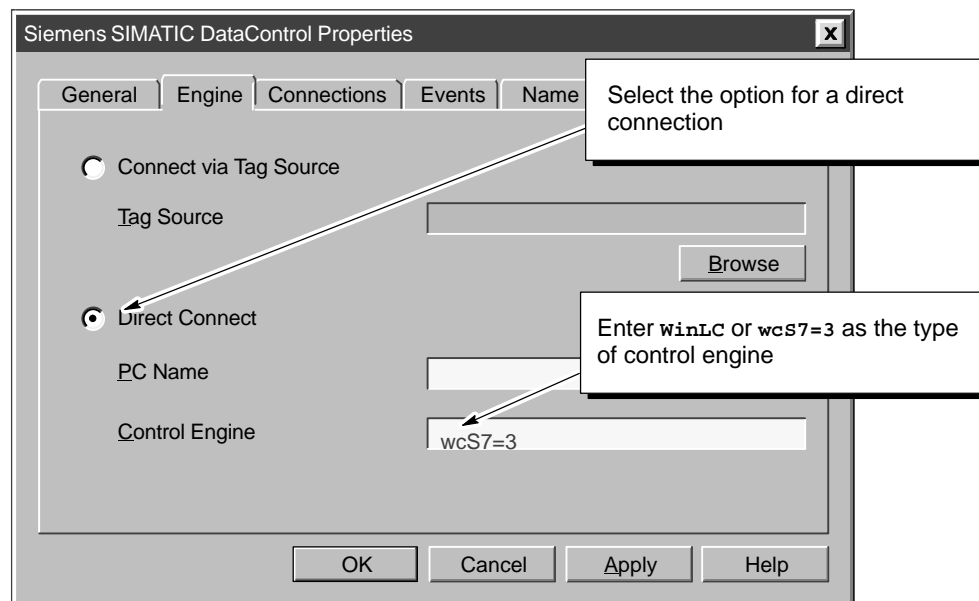

Figure 1-10 Connecting the Data Control to a Control Engine
1. Select the “Engine” tab to configure the control engine. See Figure 1-10.